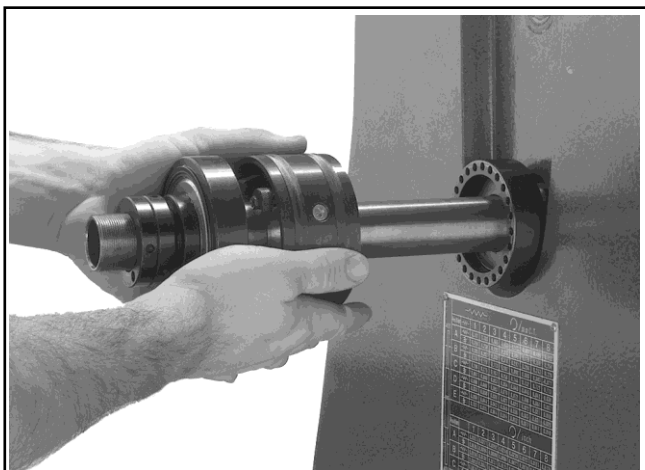

Figure 6. Inserting draw tube assembly.
1. Insert the draw tube assembly into the outboard spindle as shown in **Figure 6**. Slide the draw tube assembly all the way into the outboard spindle until it engages around the hub adapter.